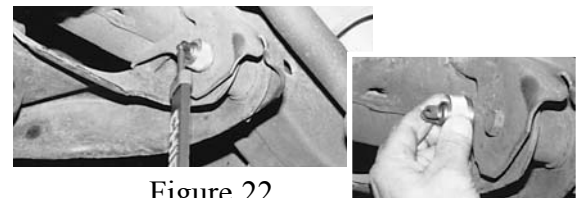

Figure 22
*Magnetic Bolt Head Attachments* (optional)- have a strong gripping capability and are designed to fit a wide range of bolt heads. (Figure 22 and its inset show an example of a magnetic bolt head attachment.)